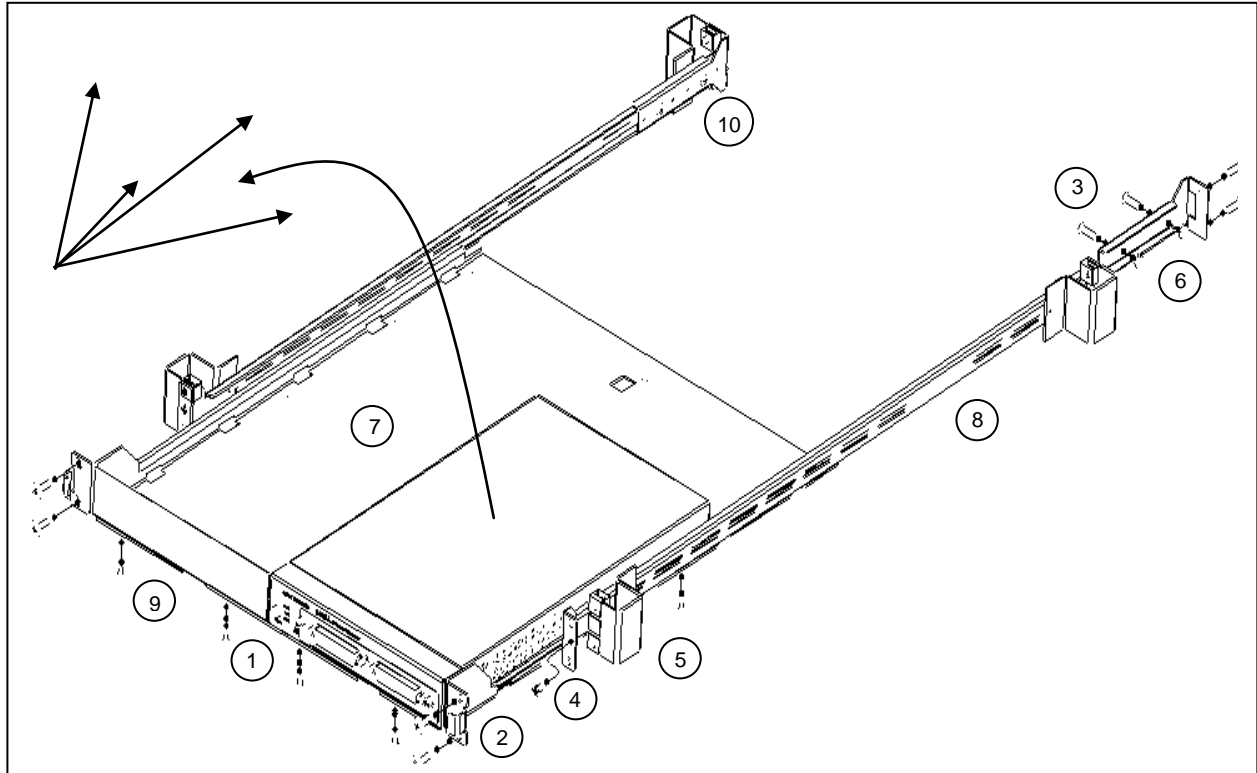
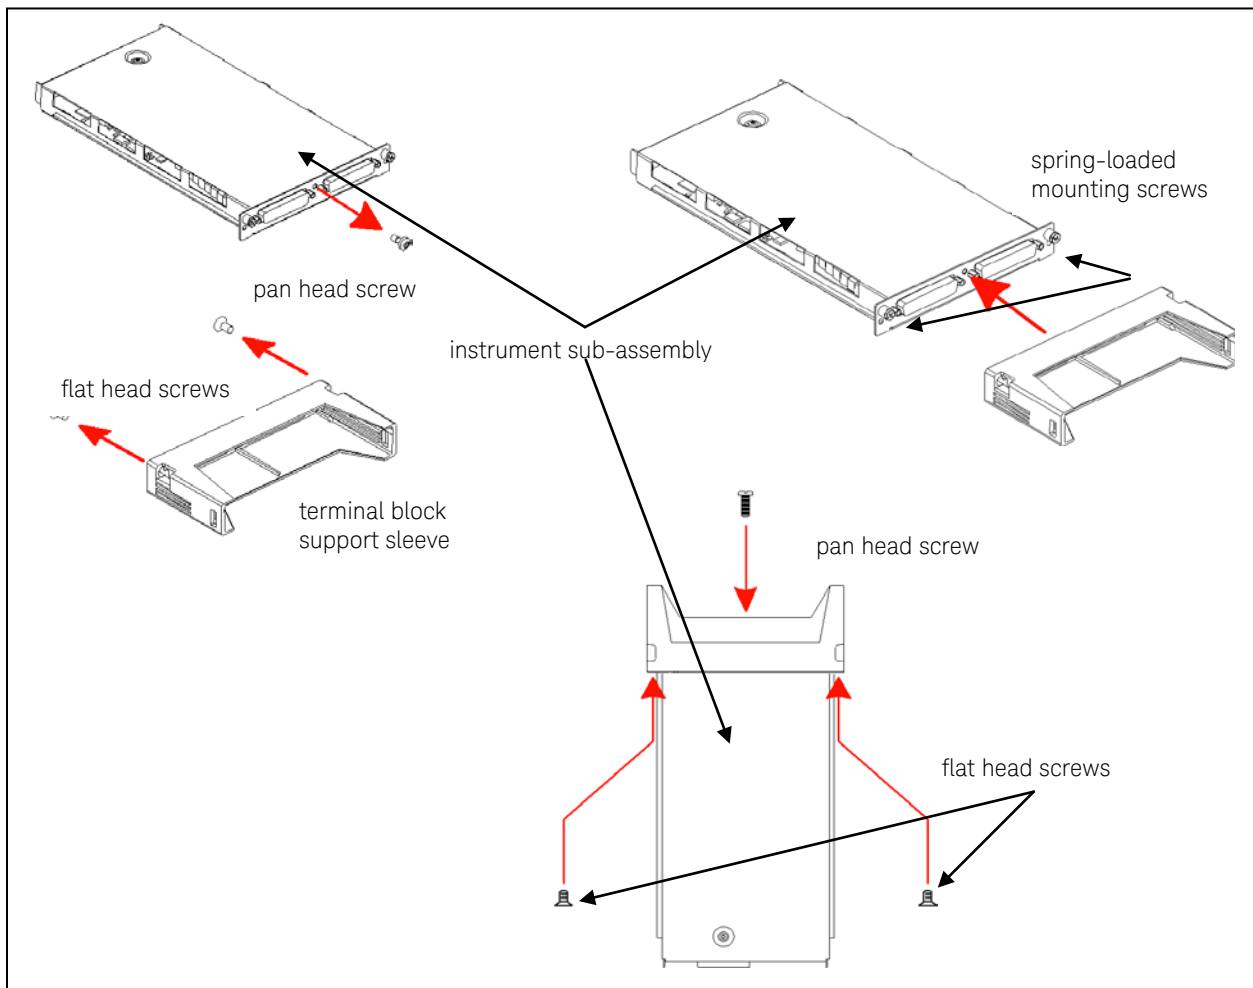

Figure 1. Y1160A Instrument Rack Mount Kit
Figure 5. Connecting the Terminal Block Support Sleeve
Figure 1 is a composite drawing of the Y1160A sliding shelf rack mount kit. The drawing shows the location/usage of the hardware items listed in Table 1.
3. Note the location of the mounting holes on the bottom of the instrument (Figure 1). If present, remove the adhesive feet from the instrument. Place the instrument on the shelf and align the mounting holes with the holes on the shelf. Insert four M4x8 flat head screws (item 1) upward through the bottom of the shelf and into the mounting holes.
4. Install the second instrument (if present) in the shelf area adjacent to the first instrument. If only one instrument is installed, install a filler panel (item 9) on the front edge of the unused area. Insert two M4x8 flat head screws (item 1) upward through the bottom of the shelf and into the panel.
6. For instruments that have accompanying terminal blocks, partially remove the instrument sub-assembly from the instrument (carrier) by loosening the spring-loaded mounting screws (Figure 5). Remove the support sleeve from the terminal block. Locate and remove the flat head screws from the sleeve and remove the pan head screw from between the instrument's D-sub connectors. Connect the sleeve to the instrument using the flat head and pan head screws as shown. Reconnect the sub-assembly.